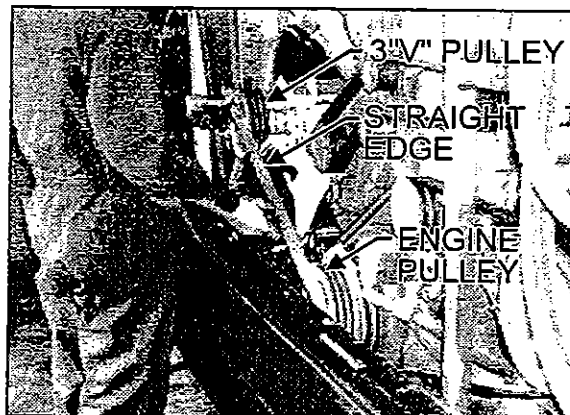

Figure 18: Pulley Alignment
- Using a straight edge, align the 3"V" pulley on gearbox central shaft pulley with engine pulley, while taking pulleys outer edge thickness under consideration. That is, the 3 "V" pulley's outer edge is thicker than the engine pulley's outer edge (Fig. 18).